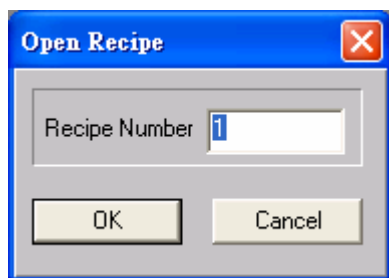

Figure 191. Specify Recipe Number
6. Select [Recipe]/[Open] to edit the recipe, enter the recipe number to open. See Figure 191. The examples of coating equipment are [Recipe Number] =1~4.